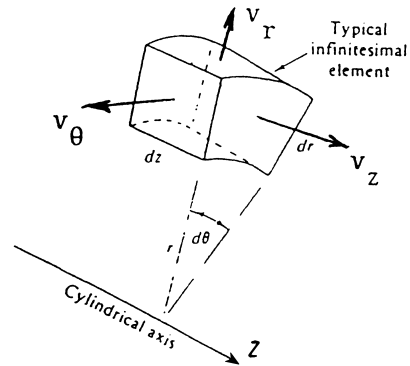

Fig. 4.2
**4.11** Derive Eq. (4.12b) for cylindrical coordinates by considering the flux of an incompressible fluid in and out of the elemental control volume in Fig. 4.2.